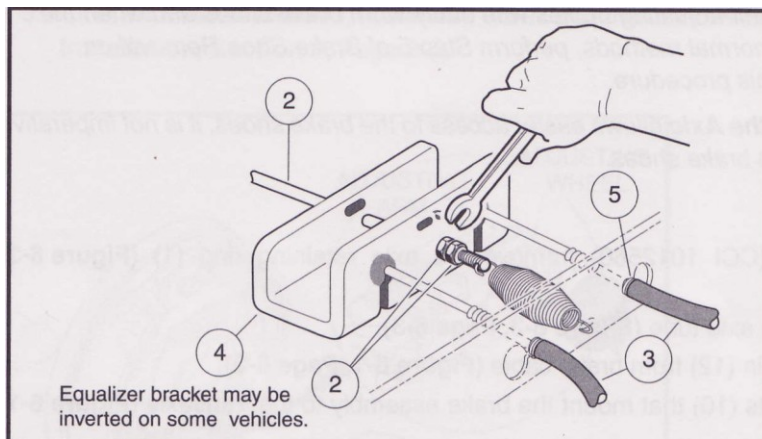

Figure 6-18
3. Release the park brake if latched and loosen equalizer retaining nuts (1) on equalizer rod (2) to loosen the brake cables (3) (Figure 6-18).
4. Rotate the brake cable upward and pull cable end through the hole in top of equalizer (4).
5. Remove E-clip from cable at vehicle frame (5) (Figure 6-18). Remove cable from frame.
1. Place end of the new cable into the equalizer (4) (Figure 6-18). Secure the cable to the vehicle frame with new E-clip. Route cable through hanger in the same manner as before.